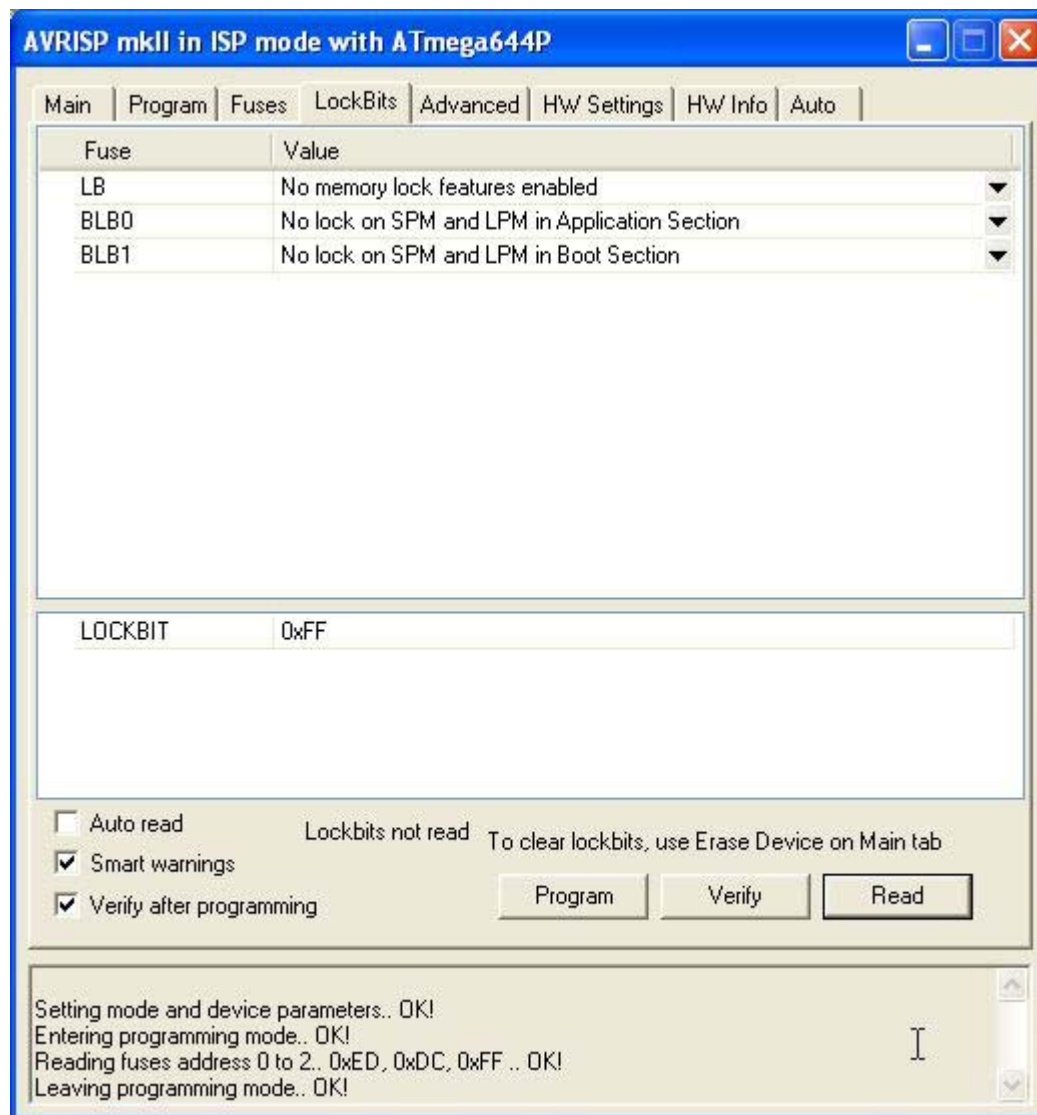

FIGURE D8: AVR STUDIO SETTINGS FOR AVRISP MK II (4 OF 4)
- 1) In the window Lockbits please set the protection bits according to the needs of the user application. The figure D8 reports a configuration without any protection, while that one supplied by **grifo®** protects the area of the FLASH which is reserved for the Bootloader.
- m) In the window Lockbits please set the protection bits according to the needs of the user application. The figure D8 reports a configuration without any protection, while that one supplied by **grifo®** protects the area of the FLASH which is reserved for the